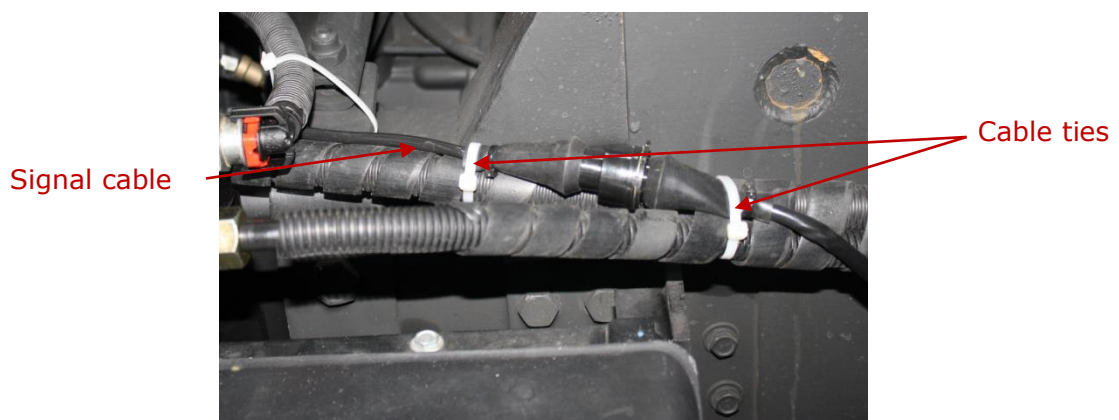

Figure 26 — Laying DFM Industrial CK/CCAN signal cable
- 5) It is **strongly recommended** to lay DFM Industrial connection cable together with standard electrical vehicle wiring with mandatory cable ties fixing of every 50 cm, at a positive ambient temperature (see figure 26).